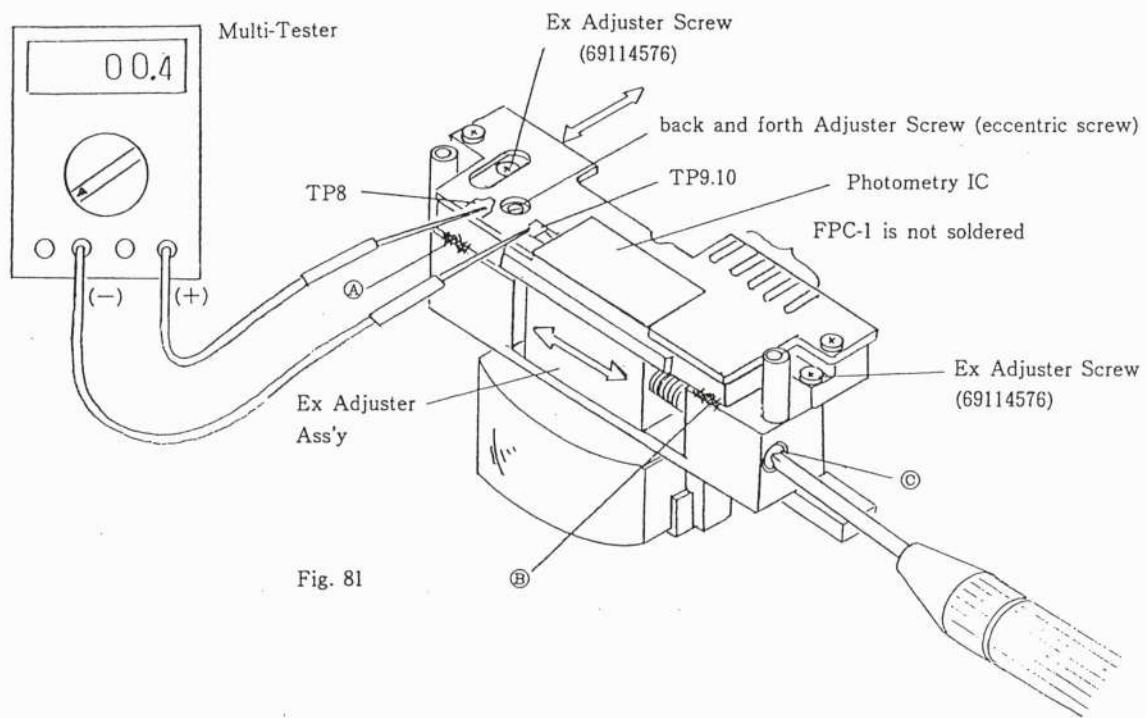

Fig. 81
- 8) Using a plus screwdriver, move the Ex Adjuster left and right to get the maximum current. (see Fig 81)
\* When the adjustment is finished, apply Cemedine 551 to the back and forth Adjustment Screw and the Points Ⓐ, Ⓑ, and Ⓒ in Fig 81.